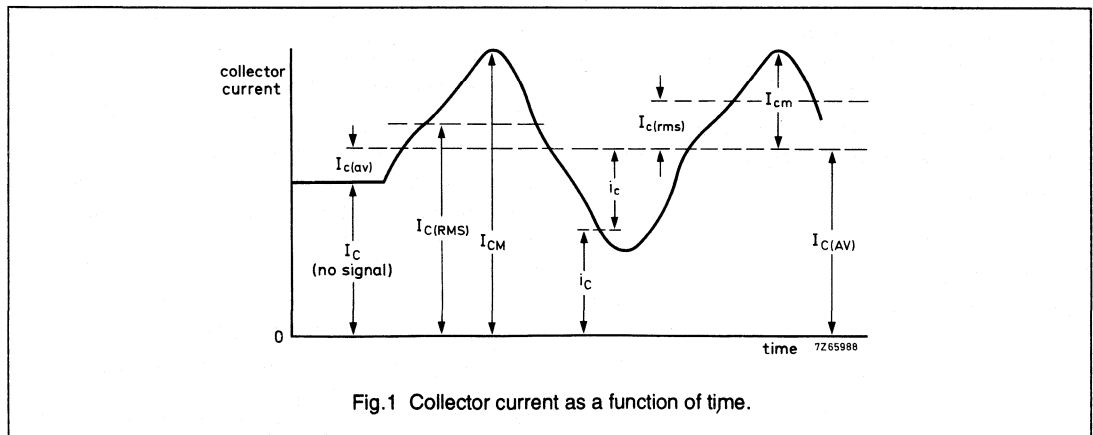

Fig.1 Collector current as a function of time.
Fig.1 represents a transistor collector current as a function of time. It comprises a continuous (DC) current and a varying component.